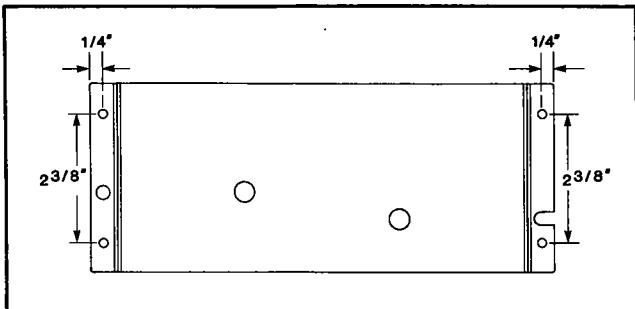

Figure 21. Fuse Cover Holes
7. Mark and drill four holes in a Fuse Cover (P/N 34651-004) using battery tester holes as a template (figure 21).